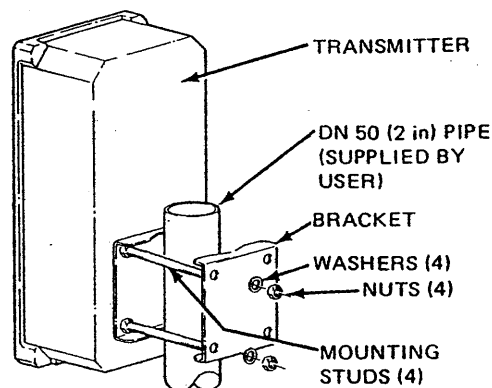

Figure 19.
4. Mount transmitter onto pipe with other mounting bracket; secure bracket with remaining four nuts and washers as shown in Figure 19.